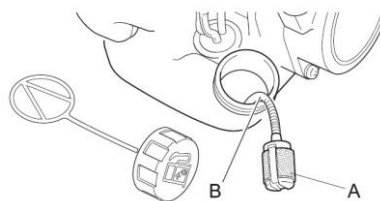

Fig. 10
WARNING! If the engine of the hedge trimmer fails to start, check the fuel filter ((Fig. 10-A) and replace it if it is clogged.
1. Remove the fuel filter (Fig. 10-A) from the tank with a metal hook.
2. Remove the filter from the fuel line (Fig. 10-B) and replace it with a new one.